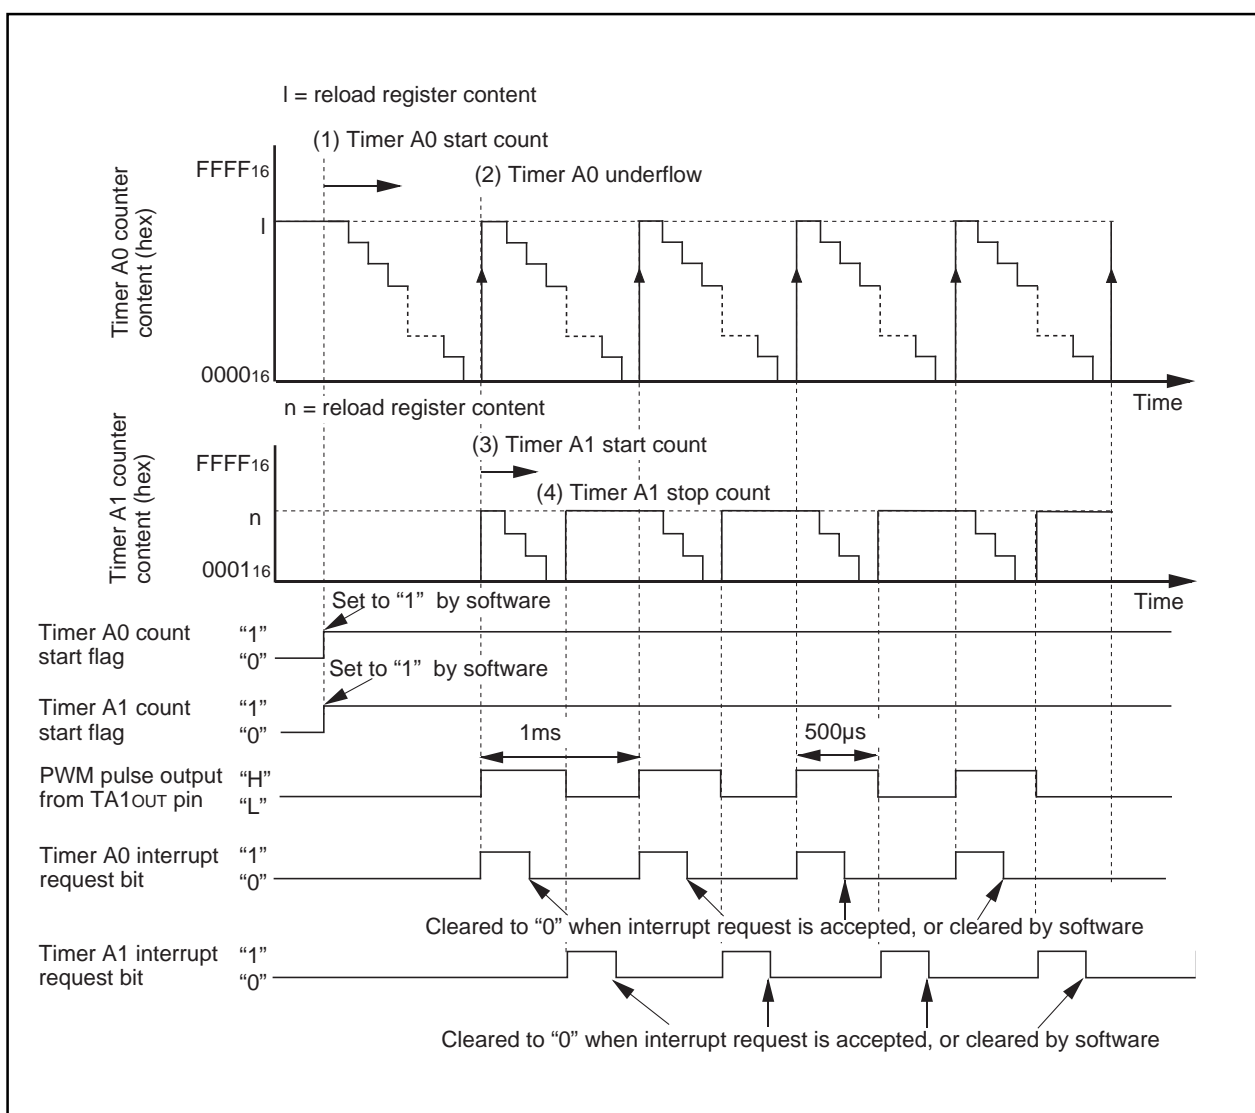

Figure 3.2.1. Operation timing of variable-period variable-duty PWM output
**Overview** In this process, Timer A0 and A1 are used to generate variable-period, variable-duty PWM output. Figure 3.2.1 shows the operation timing, Figure 3.2.2 shows the connection diagram, and Figures 3.2.3 and 3.2.4 show the set-up procedure.